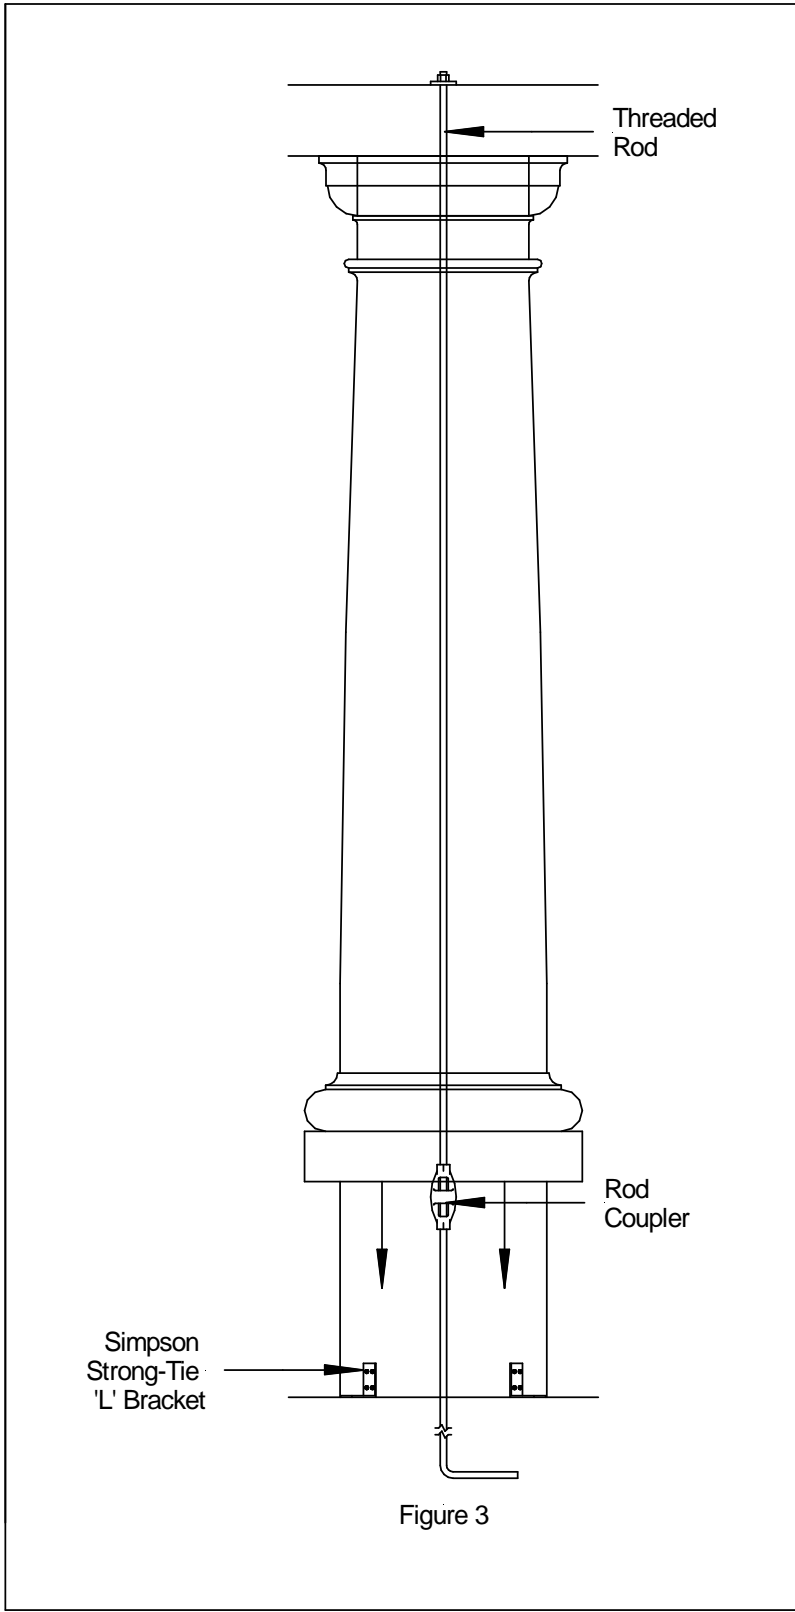

Figure 3
- **Step 1:** A 0.5” to 1.0” threaded rod (approximately 40” long) is bent at 90° at one end. Cement is poured around the bent end and the rod is positioned vertically. About 24” or more should be below the cement. A thread coupler is attached to the protruding end of the threaded rod; see **Figure 3** below.
- **Step 4:** The second rod goes through the soffit and a large washer or plate is tightened down with a nut; see **Figure 3** below. The substrate, column, capital, and soffit are all tied together. If desired Simpson Strong-Tie “L” brackets can be used to attach the shaft to the substrate. The brackets will be covered by the base.